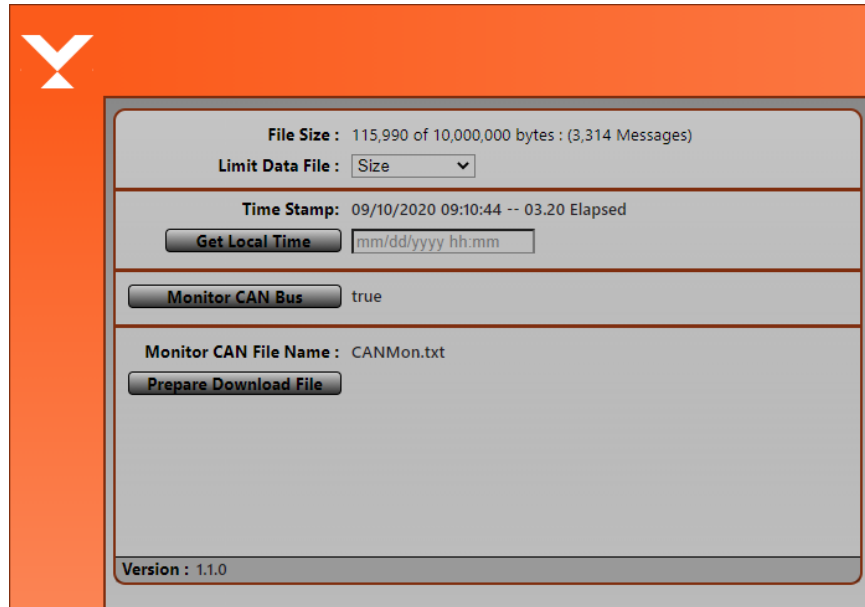

Figure 4
5. The web page shown in Figure 4 will be displayed.